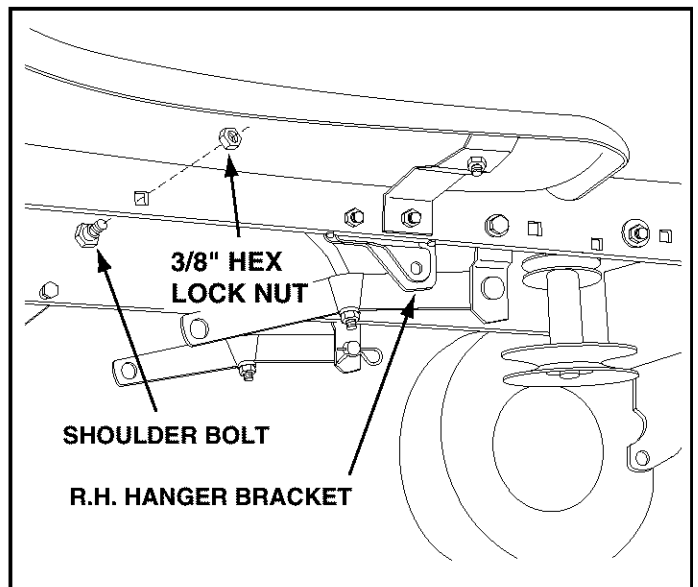

FIGURE 10 RIGHT SIDE VIEW
- Assemble a shoulder bolt and 3/8" hex lock nut to the R.H. side of the tractor frame, using the first empty hole to the rear of the R.H. hanger bracket. See figure 10.